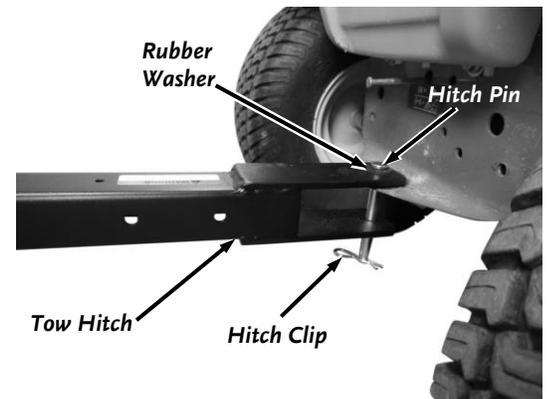

Figure 64
1. Make sure you firmly attach the DR PRO MAX450™ LEAF and LAWN VACUUM Hitch to your Lawn Tractor using the Hitch Pin and Hitch Clip (Figure 64).